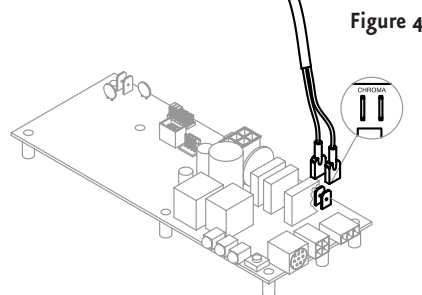

Figure 4
5. Connect the quick connect tabs to the control board in the generator at the location marked CHROMA, see figure 4.